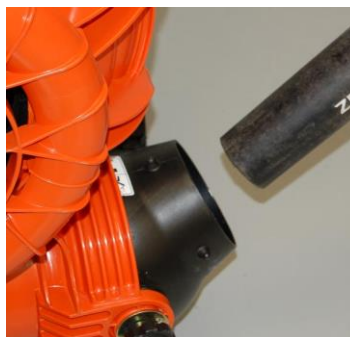

Fig. 8
*Using compressed air, or a backpack blower, you can loosen or free debris easily from the impeller and housing, which can cause wear and tear on the machine. You can manually remove debris by taking off the front housing. Note: Always disconnect the spark plug when servicing. (See Fig. 8 and 9)